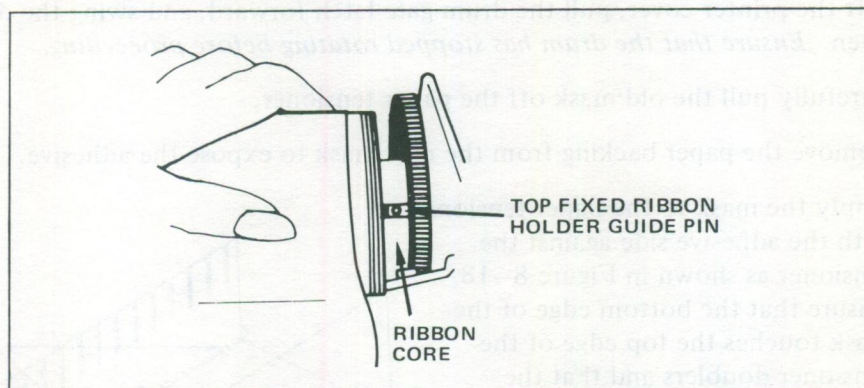

Figure 8-16. Upper Right Ribbon Core Installation
5. Push the ribbon core against the floating ribbon holder spring and place the opposite ribbon core end over the upper fixed ribbon holder. Ensure that the holder guide pin slips into its slot on the core end (Figure 8-16).